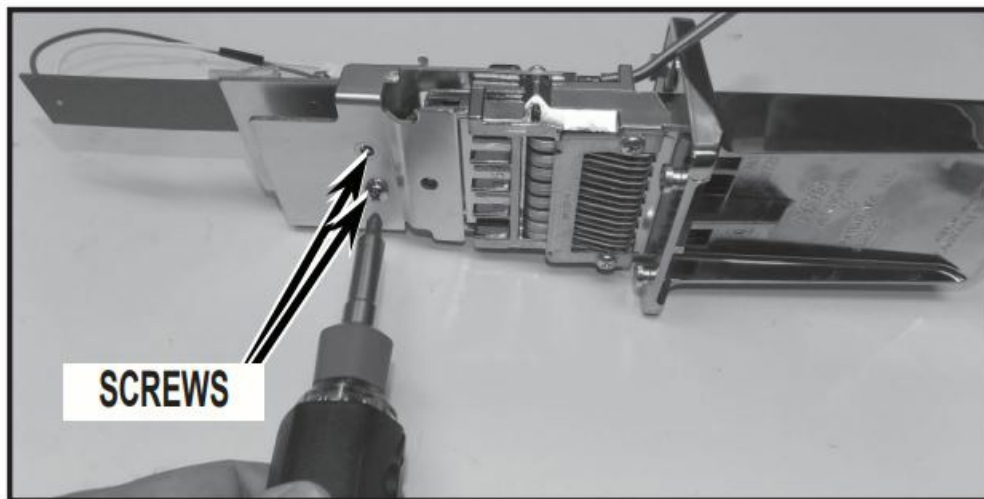

FIGURE 3
2. Turn the coin slide over and remove both screws from the bottom of the coin slide extension. See Figure 3.